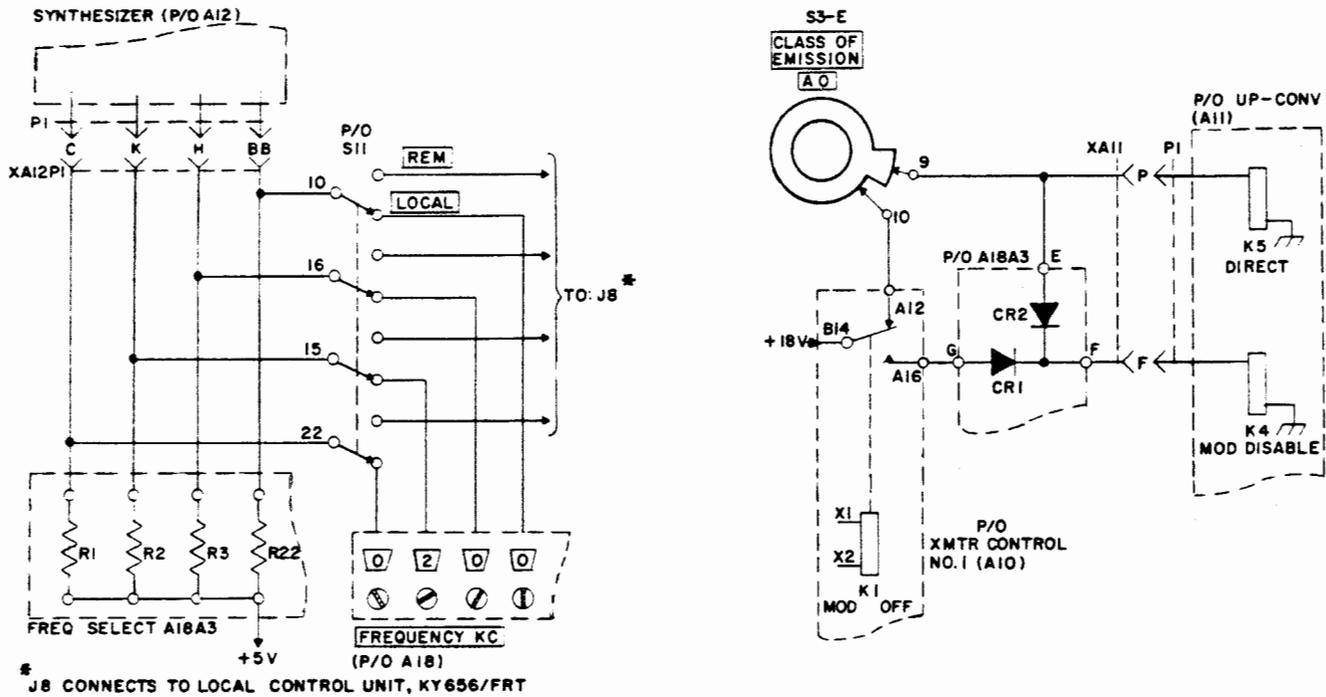

Figure 4-35. Frequency Selector Board, Functional Diagram
4-31. FREQUENCY SELECT A18A3. (See figure 4-35.)
a. DESCRIPTION. - Figure 4-35 is a functional diagram showing the connections of the 3300 ohm resistors R1 through R22 to the FREQUENCY KC tuning dial circuits. Note that a +5 volt dc potential is applied to each frequency selection gate via a 3300 ohm resistor when the circuit is a logical "1" (high impedance). This potential assures that a logical "1" gate input condition is maintained, especially when the LOCAL/REMOTE switch position is changed. When a logical "0" (ground) is selected by a tuning dial, that particular circuit potential becomes grounded through the 3300 ohm isolation resistor without affecting the +5 volt dc potential at other circuits.